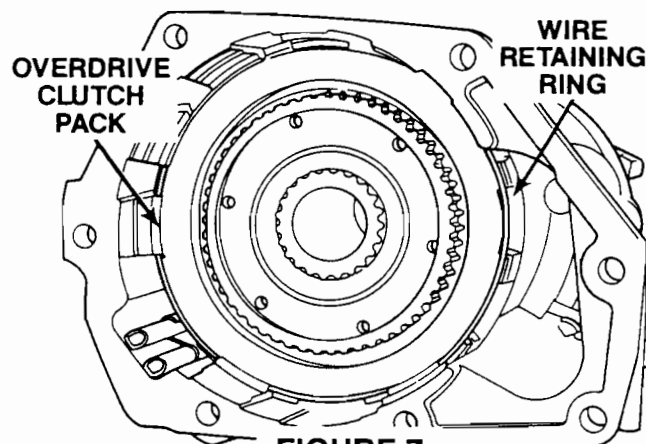

FIGURE 7
1. Remove the overdrive clutch wire retaining ring, then pull out the alternating metal and friction clutch components. Note that the heaviest metal plate is placed in the front of the clutch pack. This is the pressure plate (Figure 7).